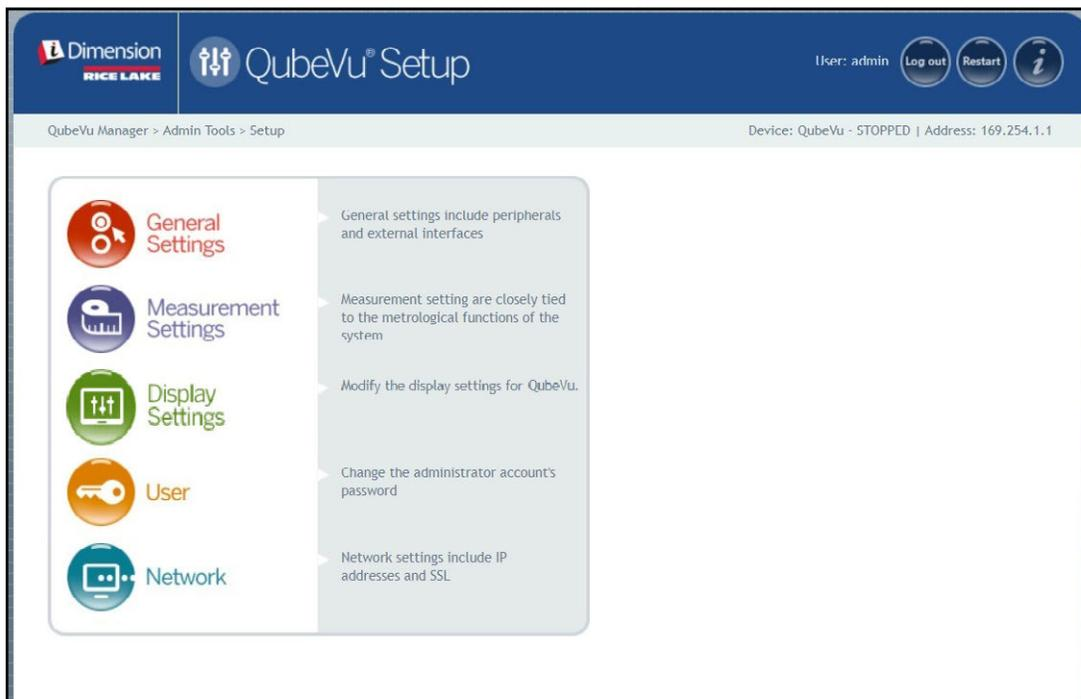

Figure 5-1. Setup Menu
- Select  **General Settings** from the **Setup** menu (Figure 5-1 on page 22). The **General Settings** menu displays.
- Select  **Measurement Settings** from the **Setup** menu (Figure 5-1 on page 22). The **Measurement Settings** menu displays.